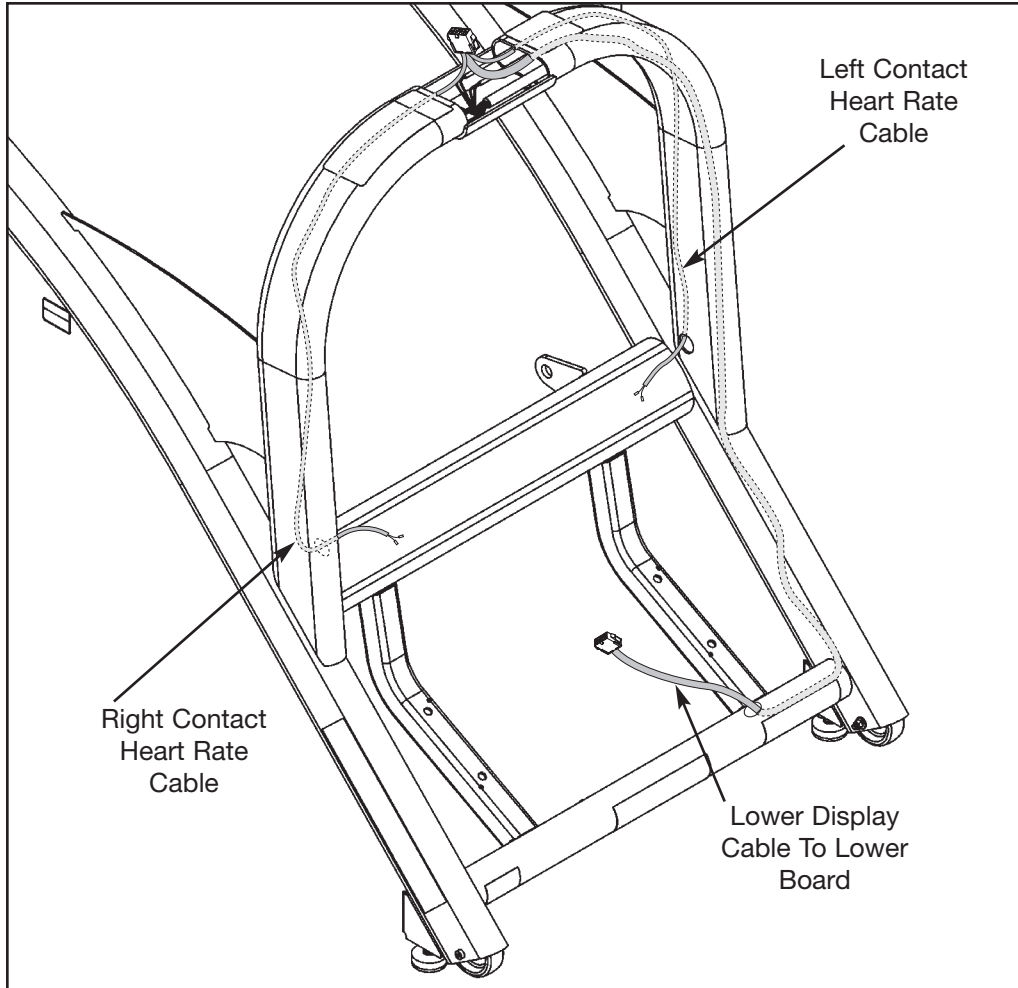

Figure 34 **NOTE:** Frame only shown for cable routing.
- G. Gently pull all three cables through the frame tubes. See Figure 34. **NOTE:** Stop pulling when the new cables exit the frame tubes.